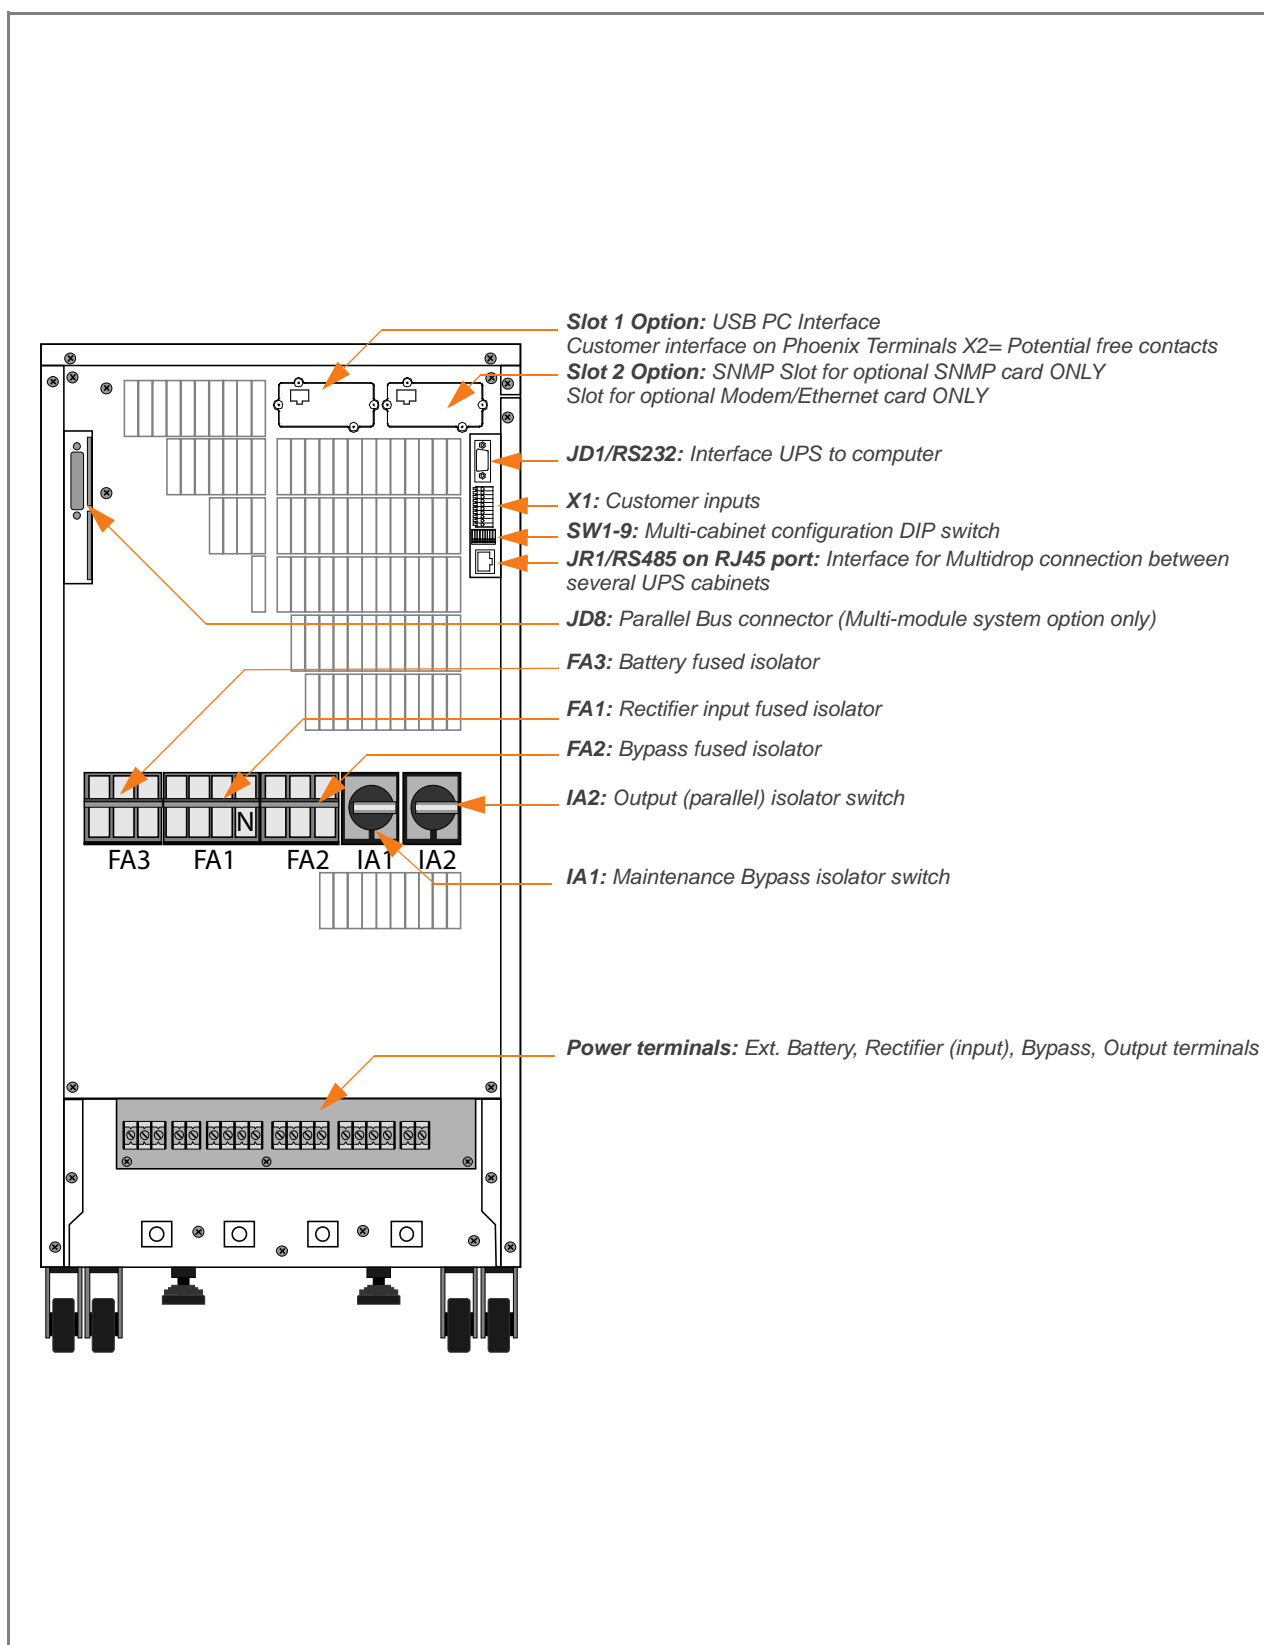

Figure 3.10 10 kVA–15 kVA Cabinet A connector details (rear view)
3. Connect the earth cable from the LV-Distribution Board to the protective earth (PE) busbar in the UPS, located adjacent to the power terminals, as shown in Figures 3.10, 3.11, 3.12.
3. Connect the protective earth cable from the Load Distribution Board to the protective earth (PE) busbar in the UPS – located adjacent to the power terminals, as shown in Figures 3.10, 3.11/ 3.12.
2. Fit the Parallel Adaptor PCB (NW4019) to connector JD8 on all UPS-Cabinets (see Figure 3.10 – 3.12).
DIP Switch SW1-9 located on the interface board (PCB NW24080) must be set according to the position of the cabinet in a parallel module chain (see *Figure 3.10 – 3.12*).